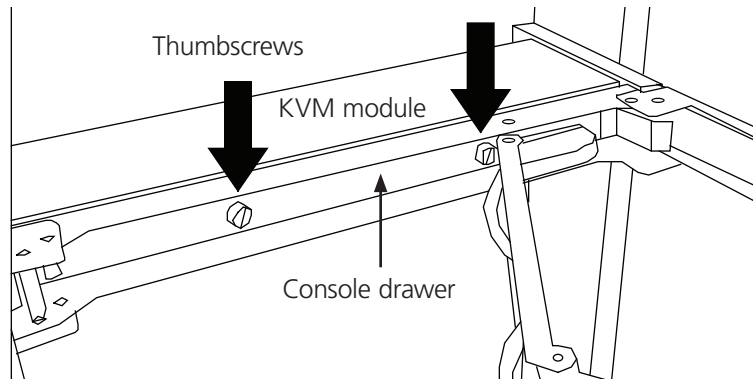

Figure 3-9. Fasten the screw to the module.
6. Slide the console drawer out and tightly fasten the screw to the module. See Figure 3-9.